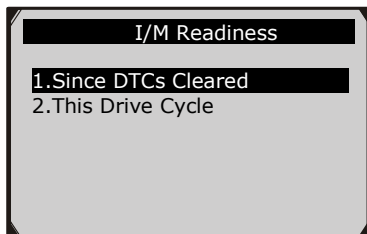

Figure 5.20
- 3) If the vehicle supports both types of tests, then both types will be shown on the screen for selection. (Figure 5.20)